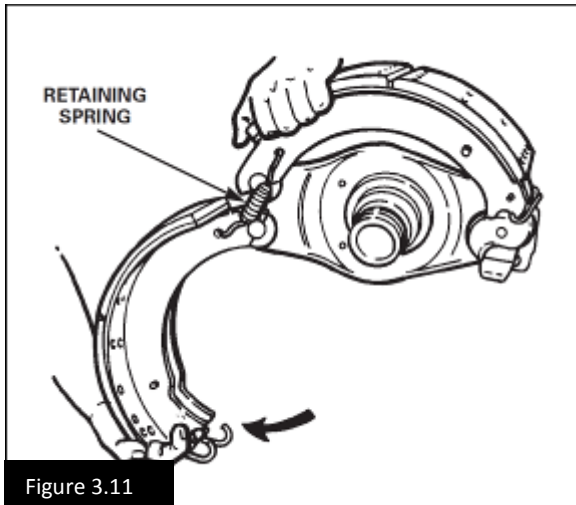

Figure 3.11
4. Rotate the bottom shoe to release tension on the two retaining springs. Remove the springs and brake shoes. Figure 3.11